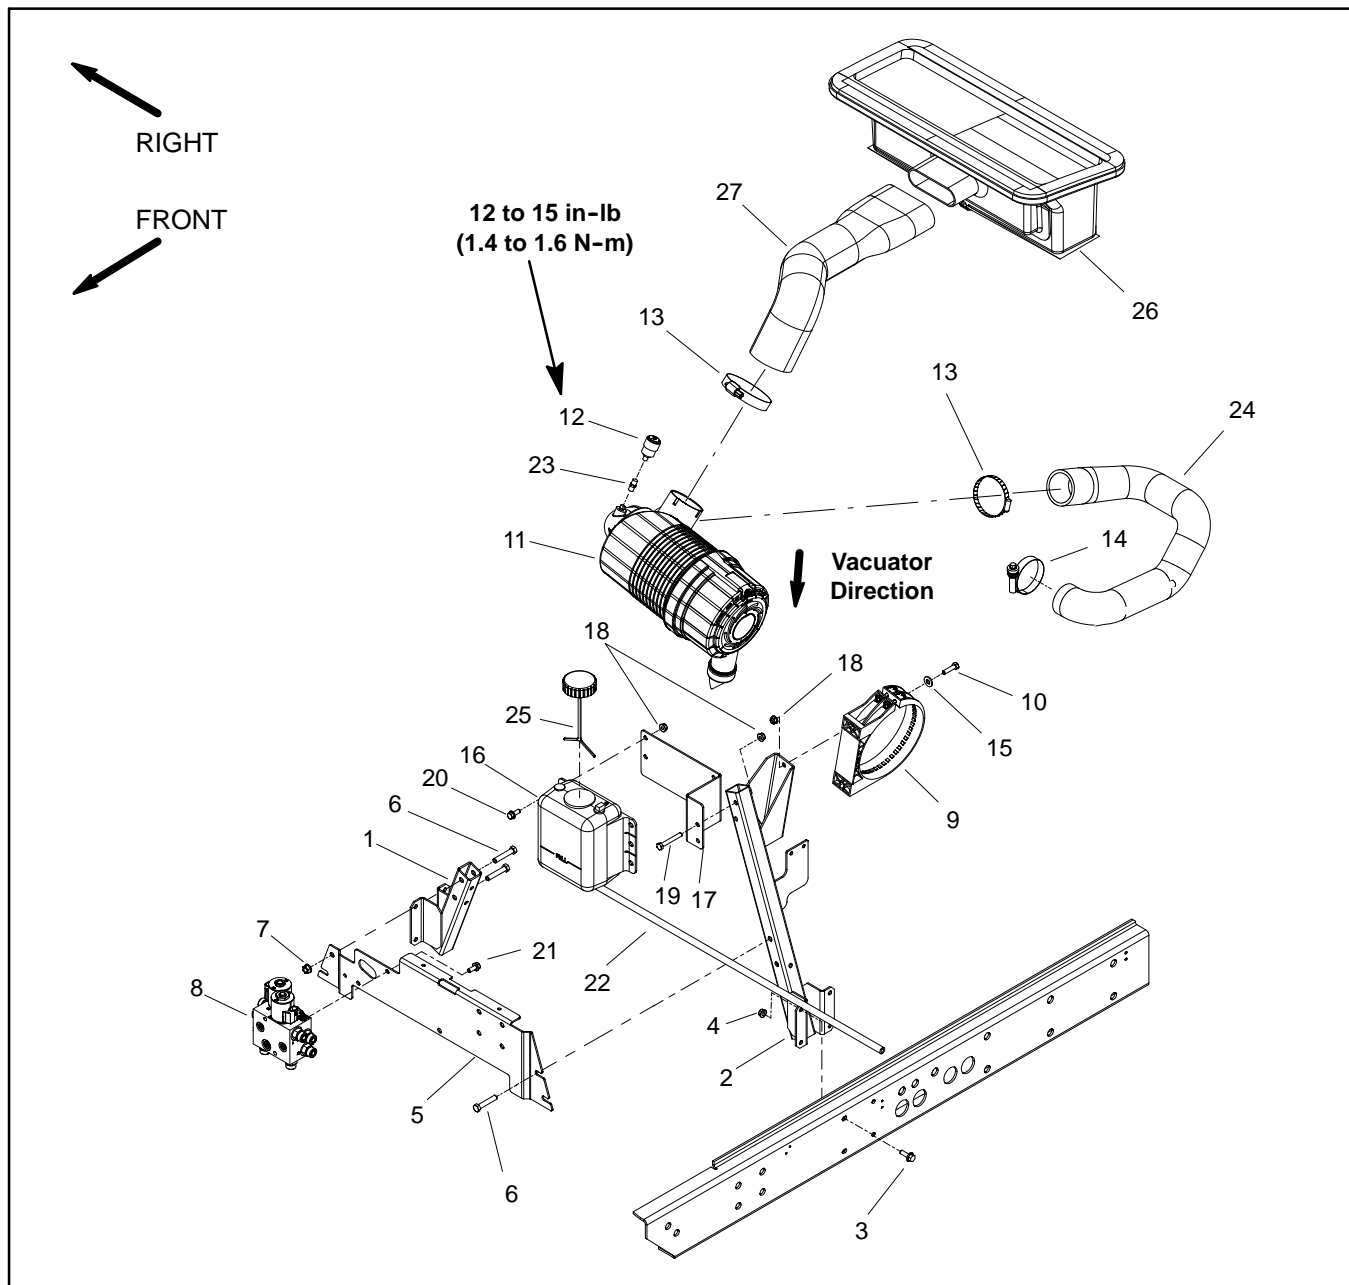

Figure 1
Removal (Fig. 1)
3. Remove air cleaner components as needed using Figure 1 as a guide.
Installation (Fig. 1)
1. Assemble air filter system using Figure 1 as a guide.